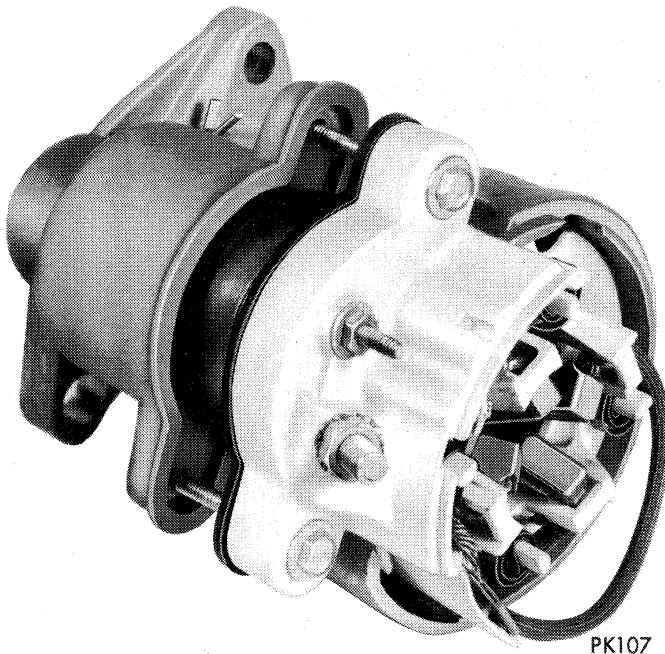

Fig. 10—Removing Solenoid and Brush Plate Assembly from Gear Housing
(7) Remove solenoid and brush plate assembly from gear housing, (Fig. 10).